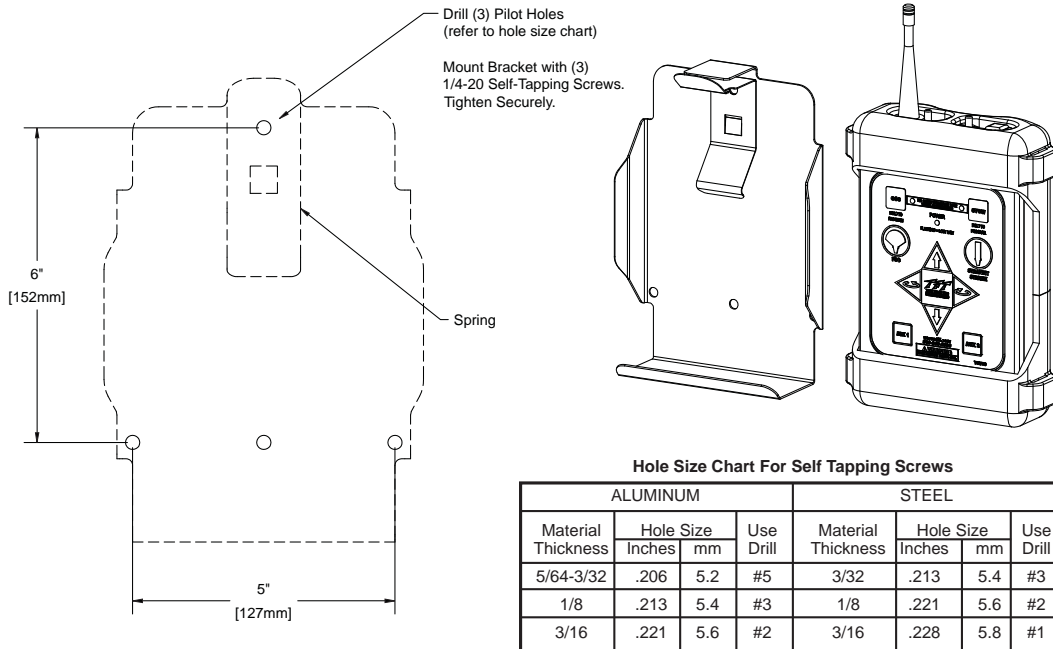

Fig 4.6.1 Wireless Operator Station Storage Bracket Hole Dimensions
The storage bracket is supplied with (3) 1/4-20 stainless steel self-tapping screws. Make sure the material beneath the bracket is substantial and thick enough to hold self-tapping screws. Make sure the area on the backside of the mounting surface is clear of obstructions. We recommend a minimum thickness of 3/32" (.093" - 2.4 mm) in aluminum and 5/64 (.078"-2mm) in steel. See the chart in Figure 4.6.1 to determine the correct pilot hole size.
Select proper location for mounting storage bracket. Panel space required will be 6.0" x 11.2" (152 x 285mm). Refer to Figure 4.6.1 for hole dimensions. Bracket can be used as a template. Be sure spring is in position.